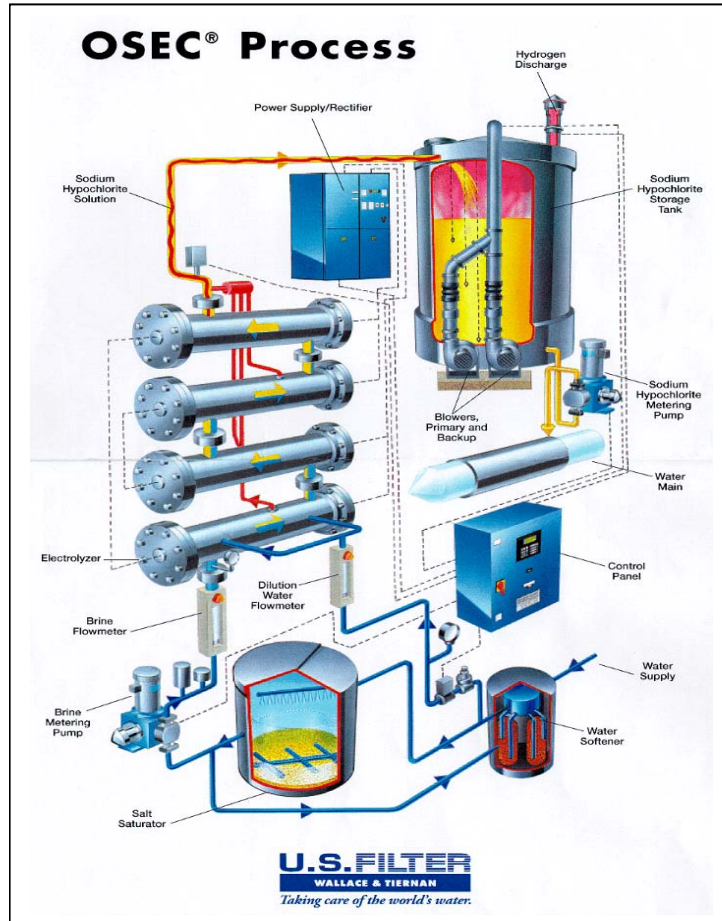

Figure 3.4 On-Site Hypochlorite Generation Process¹
- The brine storage vessel stores salt and softened water where concentrated brine solution is made and stored. (Noted as Salt Saturator in Figure 3.4.)
- The hypochlorite generators are reaction vessels where electrical charge is applied to the brine solution, resulting in the formation of sodium hypochlorite. (Noted as Electrolyzer in Figure 3.4.)